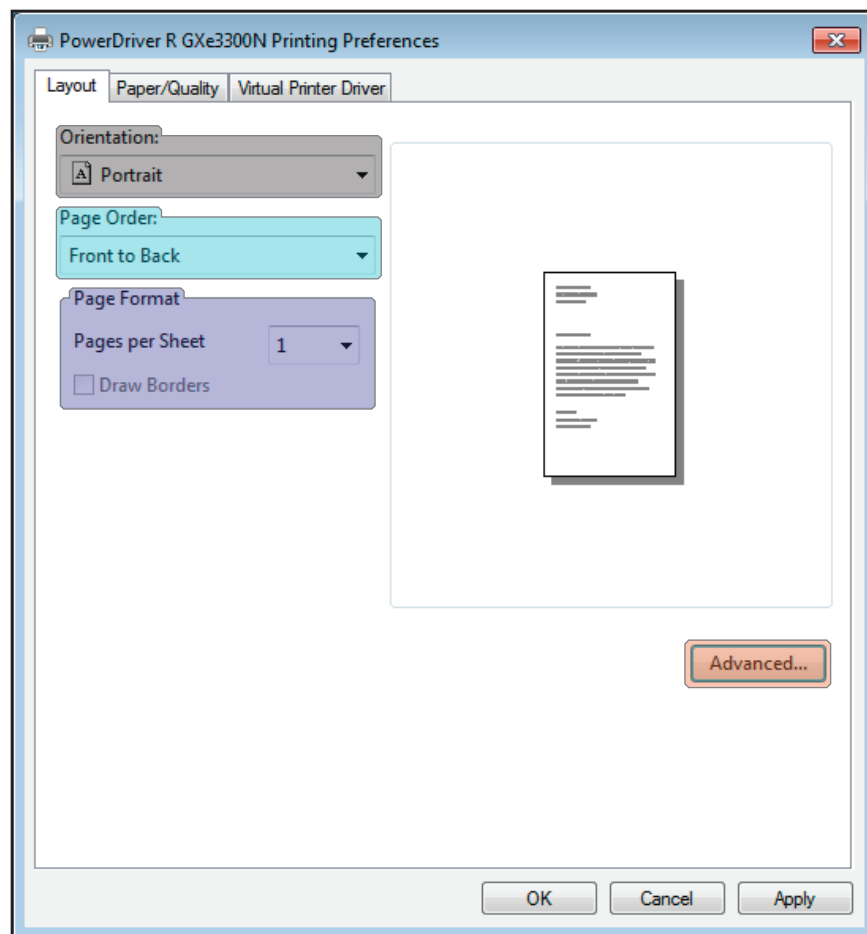

FIGURE 4
- Head Cleaning** – Click here to initiate the head cleaning process. This feature is necessary when nozzles are missing thus causing color shift or “banding” in your printed images. You should print a nozzle check to confirm missing nozzles before performing a head cleaning. Repeat the Head Cleaning until a complete nozzle check has been achieved. Cartridge users should only perform two (2) head cleanings, while users of bulk ink systems can try up to five (5). Contact technical support if you fail to achieve a good / complete nozzle check after the recommended amount of cleanings.
- 4.) At the top of the PowerDriver-R GXe3300N Printing Preference window, click the **Layout** tab. Here you will find four different **SECTIONS** to utilize: (see *FIGURE 4*).